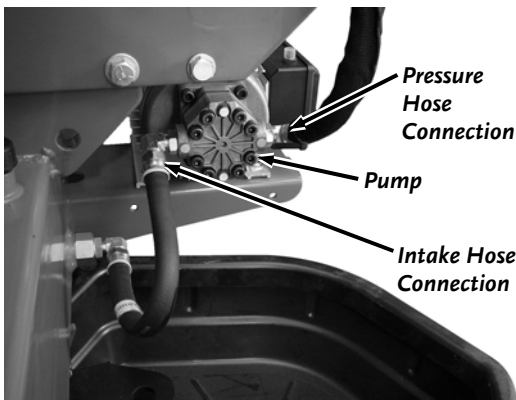

Figure 5
9. Connect the intake Hose at the Intake Elbow with a 7/8" Wrench (**Figure 5**).